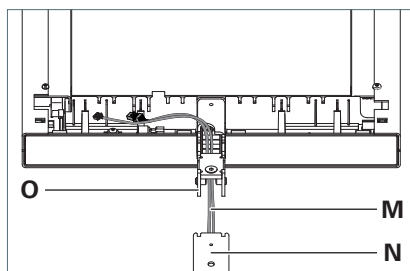

Fig. 6: Mounting the luminaire head on the support tube.
- ▶ Guide the cables **M** from below through the support arm **O** on the luminaire head and insert the support arm completely into the support tube **N**, see Fig. 6.